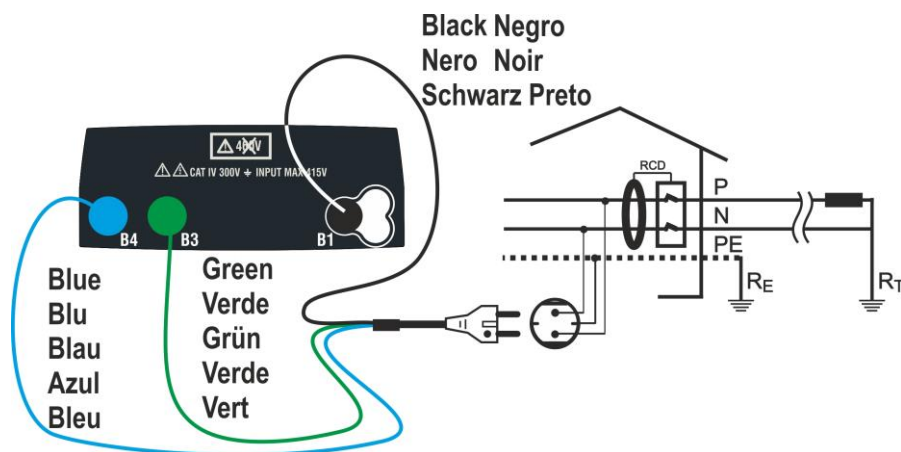
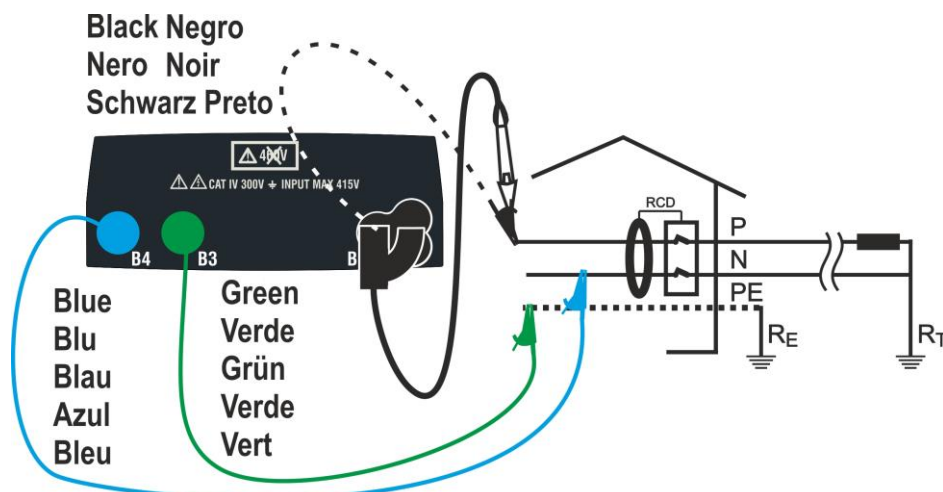

Fig. 4: Instrument connection through Mains Plug
Fig. 5: Instrument connection by means of single cables and remote lead
- Insert the green, blue and black connectors of the three-pin shuko cable into the corresponding input leads B1, B3 and B4 of the instrument. As an alternative, use the single cables and apply the relevant alligator clips to the free ends of the cables. It is also possible to use the remote lead by inserting its multipolar connector into the input lead B1. Connect the shuko plug, the alligator clips or the remote lead to the electrical mains according to Fig. 4 or Fig. 5